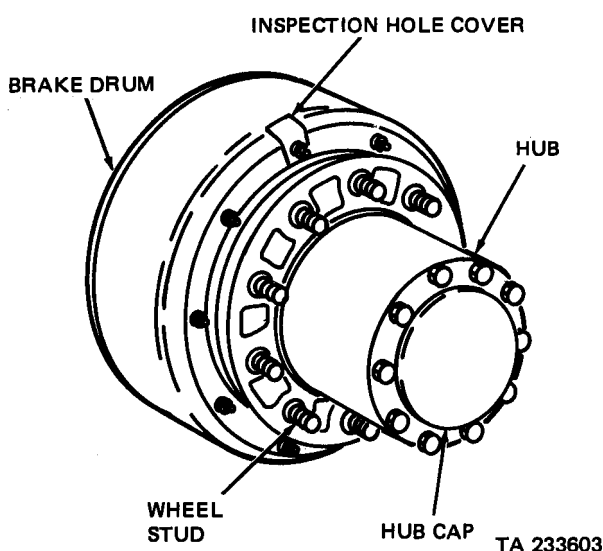

Figure 4-22. Hub and brake drum (M127)
(1) M127. The brake drum (fig. 4-22) is attached to the hub through a dished brake drum adapter. The adapter is secured to the hub by 10 cap screws and lockwashers and to the drum by 10 bolts and lock-nuts. These bolts also secure the oil slinger to the adapter and one of them retains the inspection hole cover. The oil slinger is a metal plate with a hole in the center, which protects the brake lining from lubricant. The inspection hole permits the brake lining clearance to be checked. A hub cap and gasket, fastened by 10 cap screws and lockwashers over the center of the hub, excludes moisture and foreign matter.